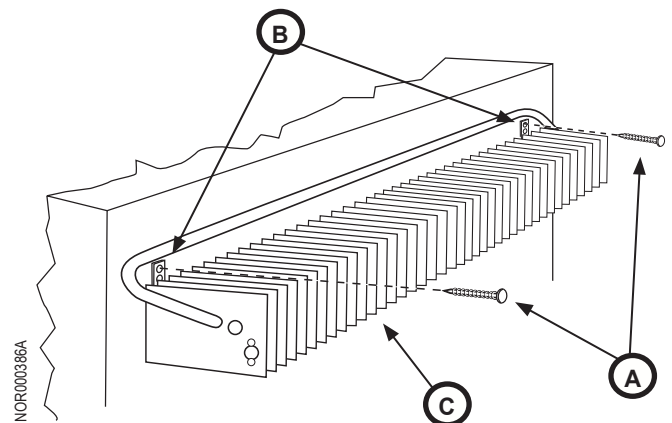

Fig. 15 - Serial Number 10086692 and Higher
- For serial numbers 10086692 and higher, use a self-drilling screw (Fig. 15,A) and the bracket (Fig. 15,B) on each end of the condenser (Fig. 15,C) to secure the condenser to the refrigerator cabinet.